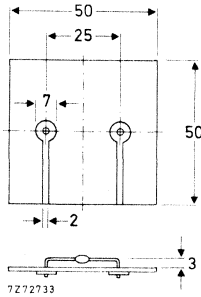

Fig. 2 Dimensions of printed-circuit board.
2. Thermal resistance from junction to ambient when mounted on a 1,5 mm thick epoxy-glass printed-circuit board; Cu-thickness $\geq 40\ \mu m$; Fig. 2